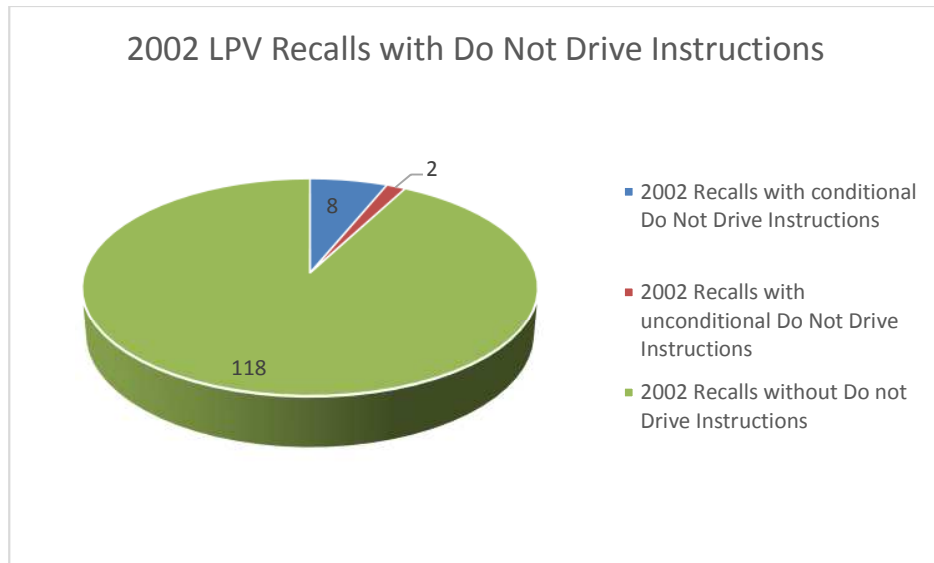

Figure 12. 2002 LPV Recalls with Do Not Drive Instructions
Ten (10) of the one hundred twenty eight (128) 2002 LPV recalls contained DND instructions. Eight (8) of those DND instructions were conditional upon owner detection of a defect. Two (2) recalls had an unconditional “do not drive” vehicle recommendation. In the graph in figure 12 these two recalls are counted and categorized as recalls with “unconditional” DND instructions. For the text detailing the DND instructions for the 2002 LPV recalls see Appendix A-12.